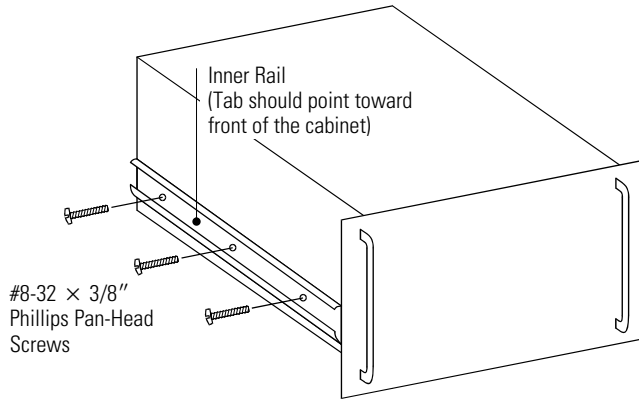

Figure 15. Attaching the Inner Rail to the Battery Cabinet
5. Attach the inner rails to the battery cabinet (see Figure 15). Be sure the tab on the inner rail points to the front of the battery cabinet. Secure the rail using three #8-32 × 3/8" Phillips pan-head screws on each side of the cabinet.